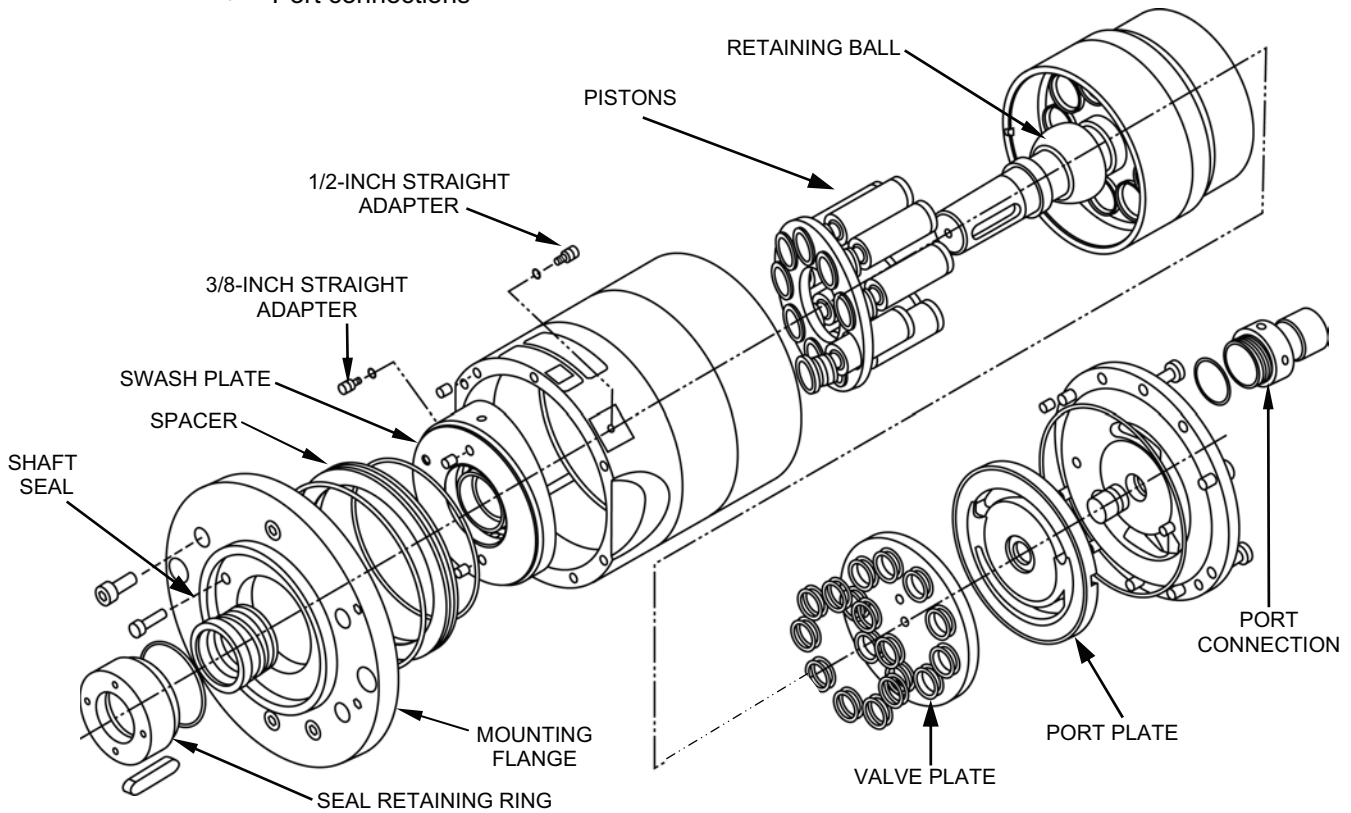

Figure 29. Pump Parts Replaced Only as Required.
4. Inspect the following parts for wear or damage and replace as required (see Figure 29):